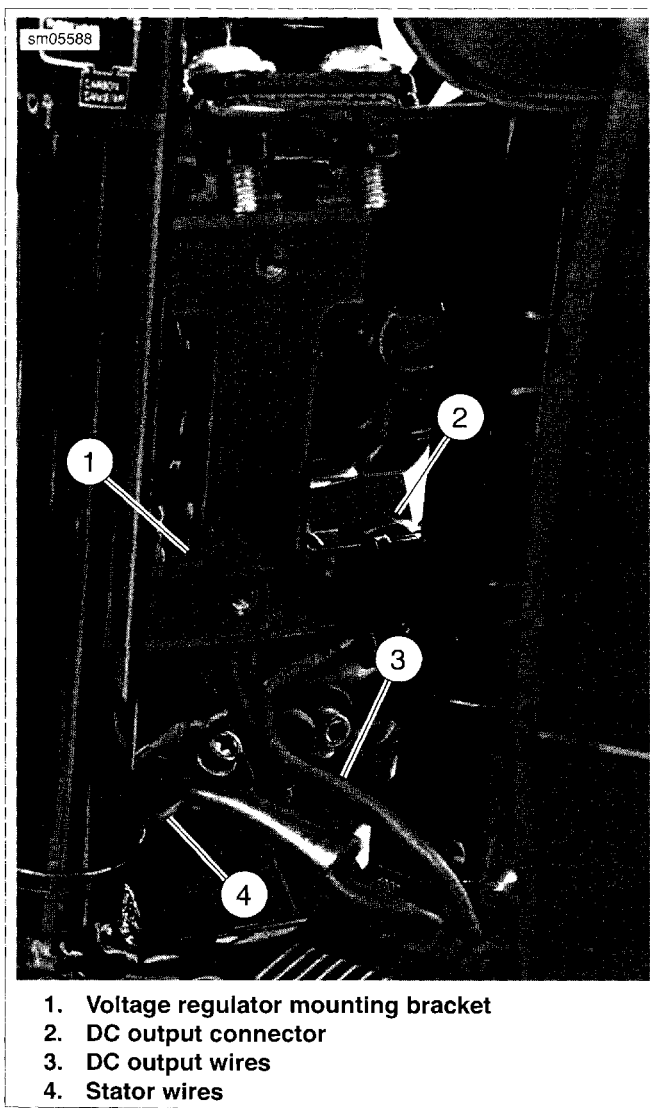

Figure 6-8. Voltage Regulator Wire Routing: XR Models
1. See Figure 6-8. Position voltage regulator close to mounting bracket (1). Orient regulator so cooling fins face forward and wiring harnesses exit regulator body toward right side of vehicle.
2. Thread DC output wires below mounting bracket . Route DC output connector (2) toward left side of vehicle.
3. Route stator wires (4) down along between right frame downtube and body of voltage regulator. Route stator harness connector [46A] toward right side of vehicle.